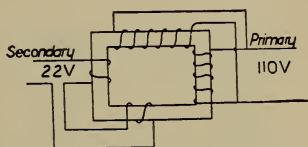

FIGURE 218.—110 VOLTS TRANSFORMED TO 22 VOLTS.
**239. Fine-wire Primary.** — 1. If the primaries are connected in parallel and the secondaries in series, the voltage will be  $\frac{2}{10} \times 110 = 22$ . (Figure 218.)